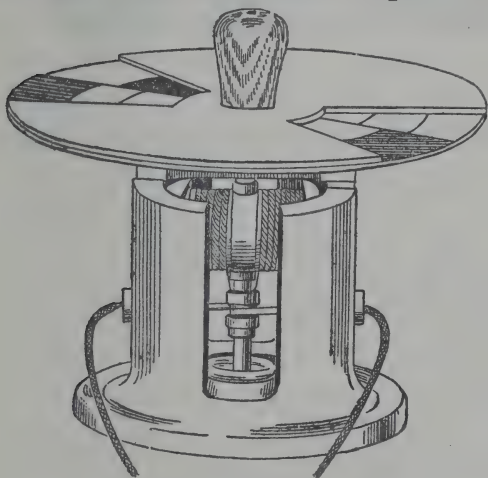

Fig. 26
8. *The Electric Spinner* (Fig. 26).—A toy full of instruction. The standard is a steel magnet which produces a magnetic field. Inside of this is an electro-magnet which serves as an armature. Plainly